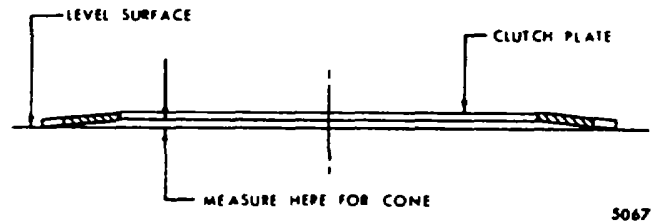

Fig. 4-8. Method of measuring clutch plate cone
(1) Inspect friction-faced steel plates (internal-splined plates) for burrs, imbedded metal particles, severely pitted faces, excessive wear, cone, cracks, distortion, and damaged spline teeth. Remove burrs, using a soft honing stone. Replace plates which have other defects.
(2) Inspect steel plates (external-tanged plates) for burrs, scoring, excessive wear, cone, distortion, imbedded metal, galling, cracks, breaks, and damaged tangs. Remove burrs and minor surface irregularities, using a soft-honing stone. Replace plates which have other defects.
(3) The amount of cone in clutch plates is determined by measuring the distance between the inside diameter of the plate and a flat surface (fig. 4-8). If the cone exceeds the wear limits shown in the wear limits chart, replace the plate. Refer to wear limits chart, Section 8.